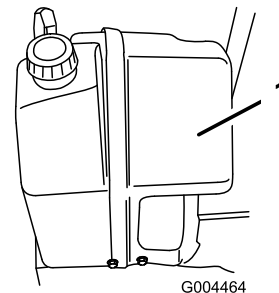

Figure 35
1. Remove the 5 fasteners on the front engine cover (Figure 35), but do not remove the cover.